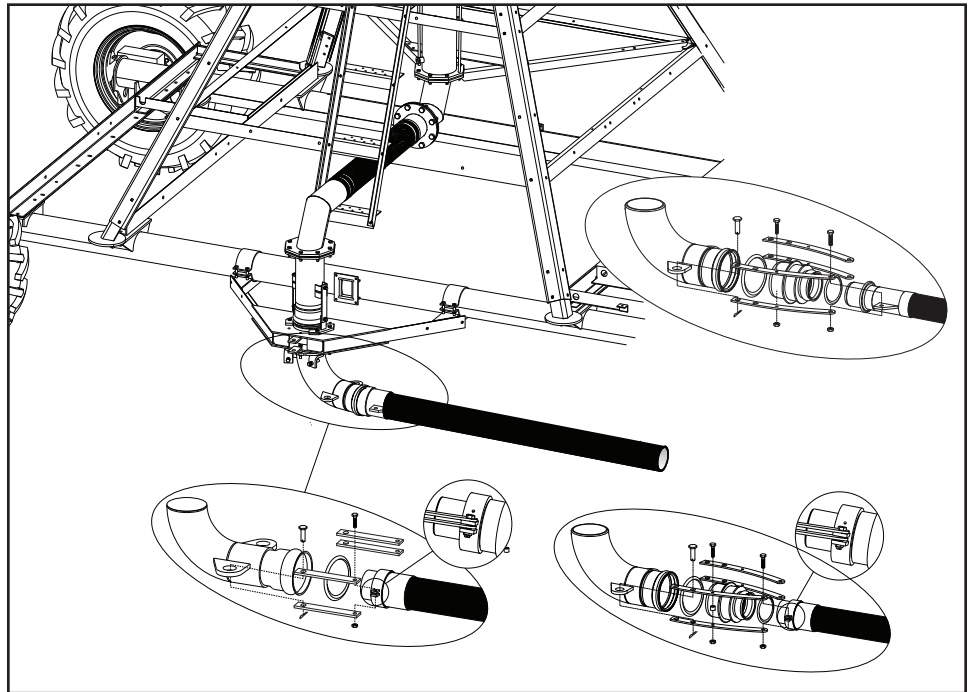

Figure 51-1 Side Inlet Hose Couplers
- Hose coupler design varies depending on the type and size of the hose. See figure 51-1 and 51-2.
- Side inlet hose couplers are secured to the inlet with pull straps. See figure 51-1.
- Center inlet hose couplers are secured to the inlet with a circle lock ring. See figure 51-1.